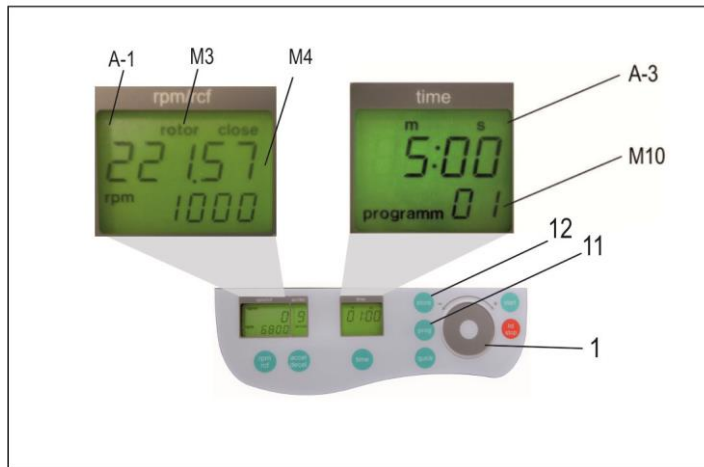

Figure 18
Put the rotor into the centrifuge. By pressing the key, "prog" (11), in the display "time" (A-3) appears the word "program", (see Figure 18). With the control field (1), choose the desired program number.
If a program number is already occupied, in the display "rpm/rcf" (A-1), the words "rotor" (M3) and e.g. "221.57" (M4) will appear, (see Figure 18). Free program numbers will appear as 0.